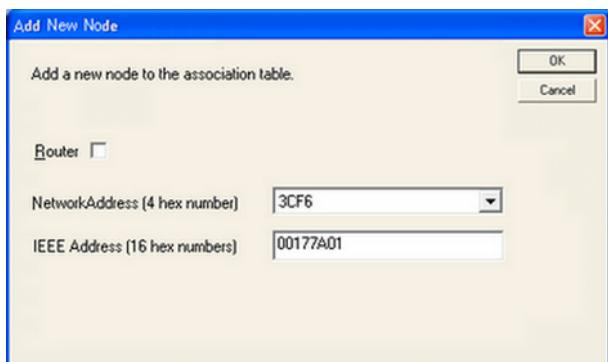

Figure 34
- When **Add Node** is chosen in the right-click menu of a gateway or router, a dialog as in Figure 34 is shown.